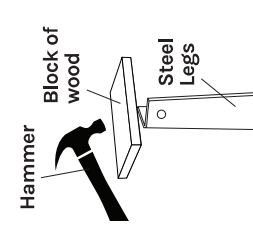

Fig. 3
- Use a hammer and a block of wood to drive each leg into the tapered socket until it is secure (see Fig. 3).